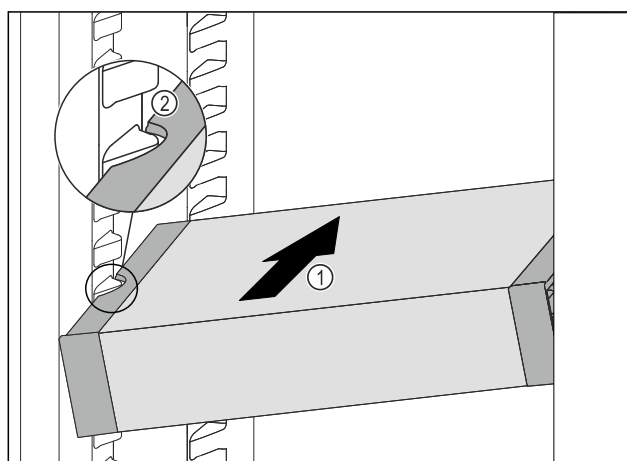

Fig. 88
- Insert the VarioSafe into the fridge section at an angle Fig. 88 (1) until the recesses in the side Fig. 88 (2) of the VarioSafe are at the level of the support rib in the fridge section.